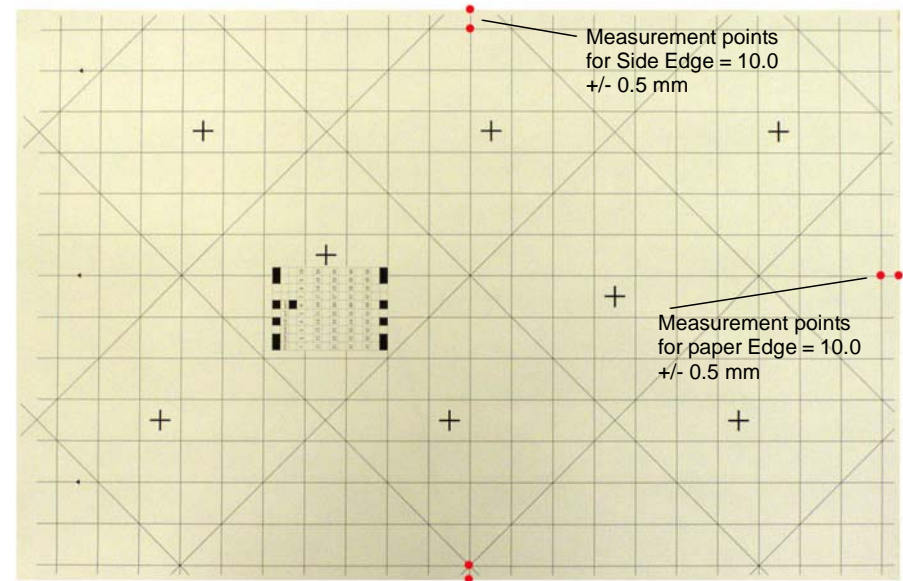

Figure 1 Measurement on Test Pattern #58
4. Remove the copy from the center exit tray and position it as shown in Figure 1.
5. Refer to Figure 1. Measure and record the dimensions.